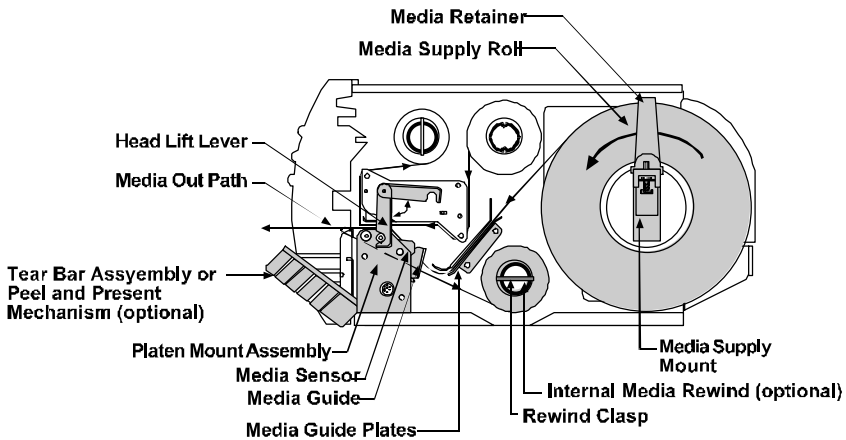

Figure 1-6 Label Loading Diagram
5. Insert the label stock as shown in Figure 1-6.